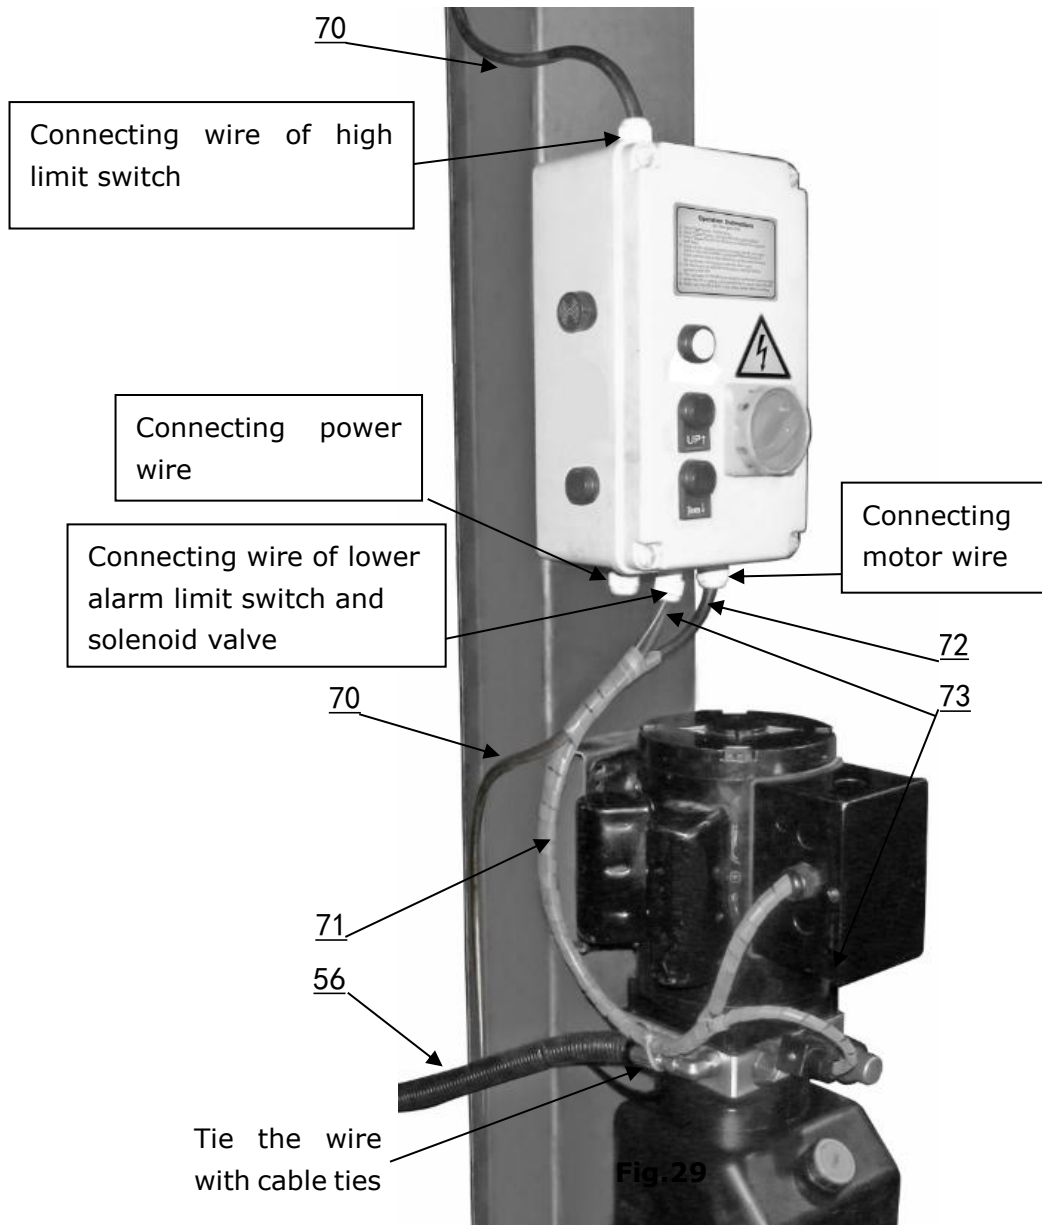

Fig.27
1. Connecting wire with control box. (See. Fig.27)